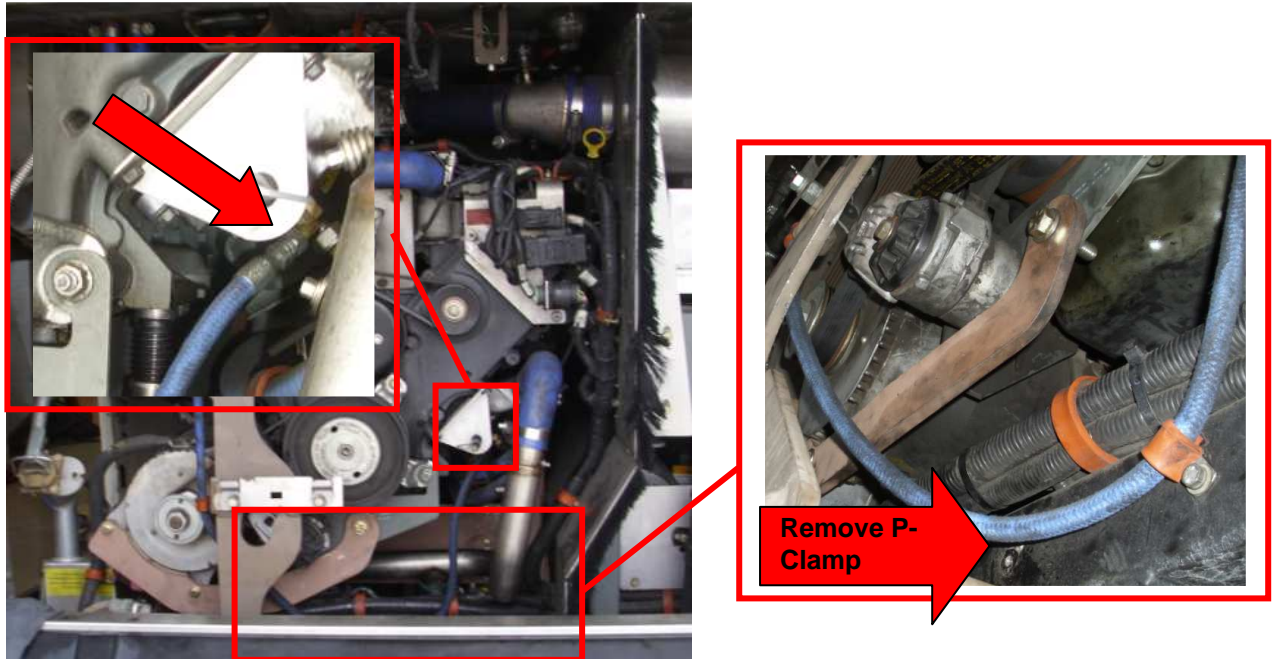

Figure 42: Engine Strut and Oil Line
- i. Re-install the SS engine strut assembly and connect the oil pressure line back to the engine block routing the line per Fig 42 to ensure no rubbing against structure.